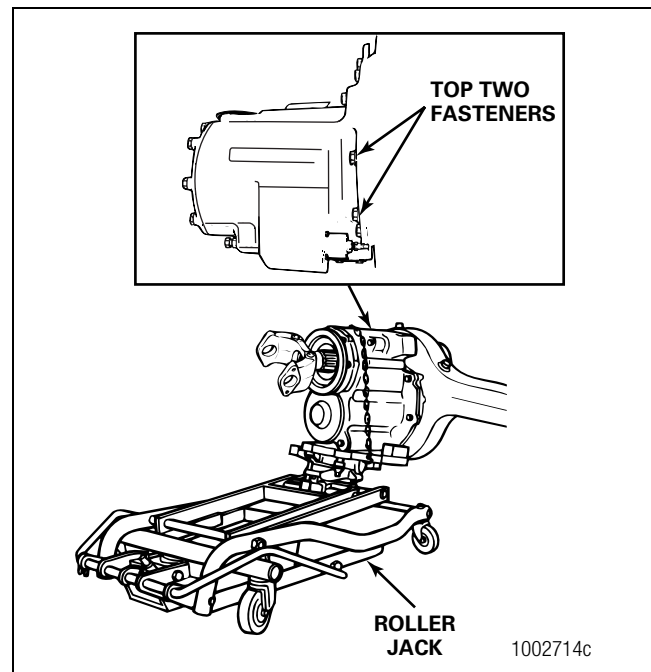

Figure 3.9
1. Place a hydraulic roller jack under the differential carrier to support the assembly. Figure 3.9.
2. Remove all but the top two carrier-to-housing capscrews or stud nuts and washers. Figure 3.9.